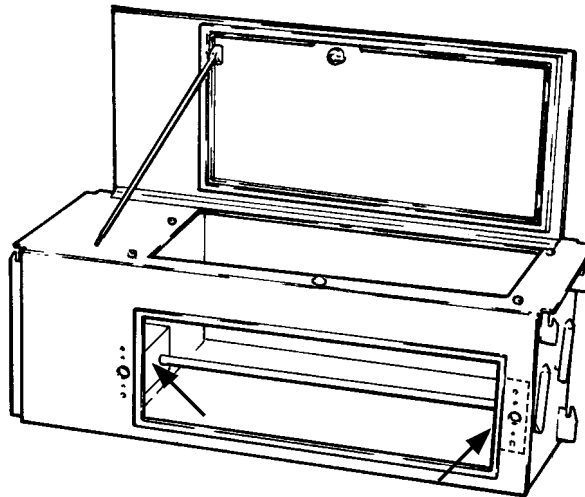

figure 18
29. Clean the indicated and dashed parts in figure 18 and 19 with a cloth of cotton wetted with ESKAPON S115.